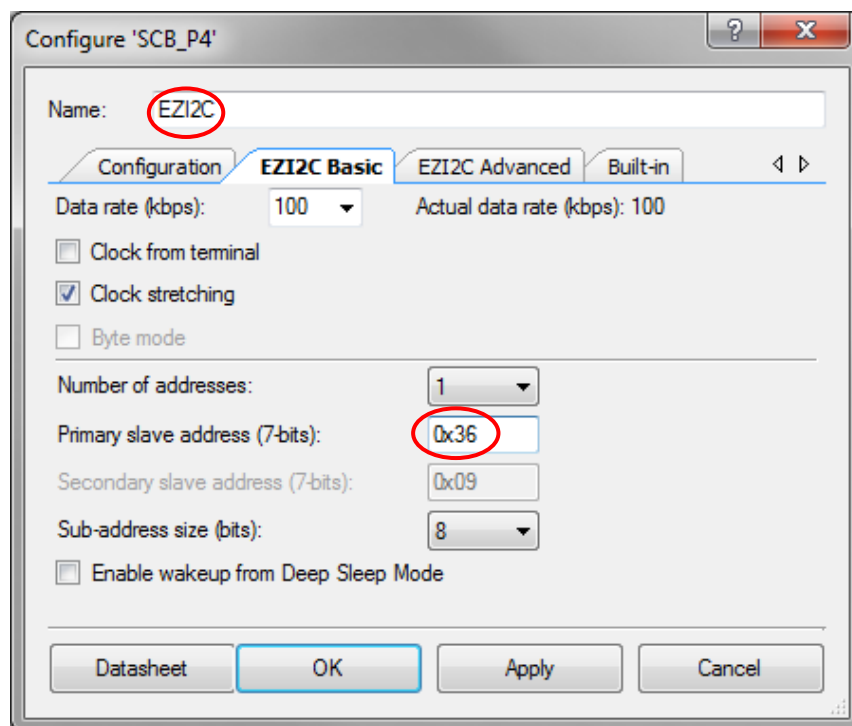

Figure 2: EZI2C Configuration
2. Add an EZI2C component to the schematic, name it "EZI2C", and configure it (see Figure 2)